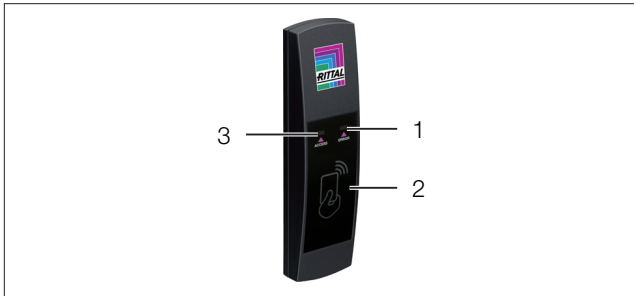

Fig. 5: Front of the transponder reader
Two LEDs for the status display are integrated into the front of the transponder reader (Fig. 5, item 1 and item 3).